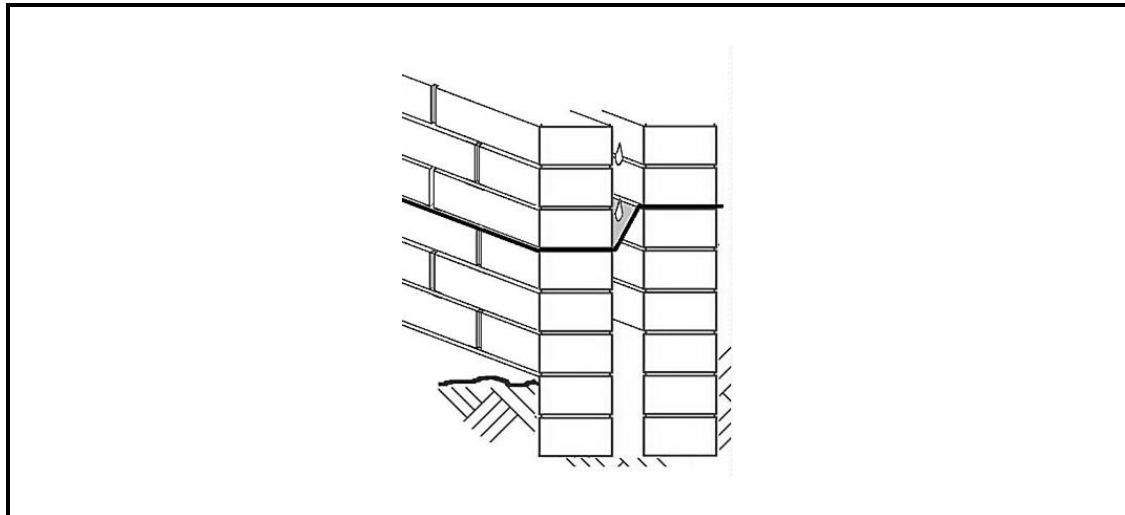

FIGURE 5.1
5.1 Answer the following questions regarding the wall construction in FIGURE 5.1.